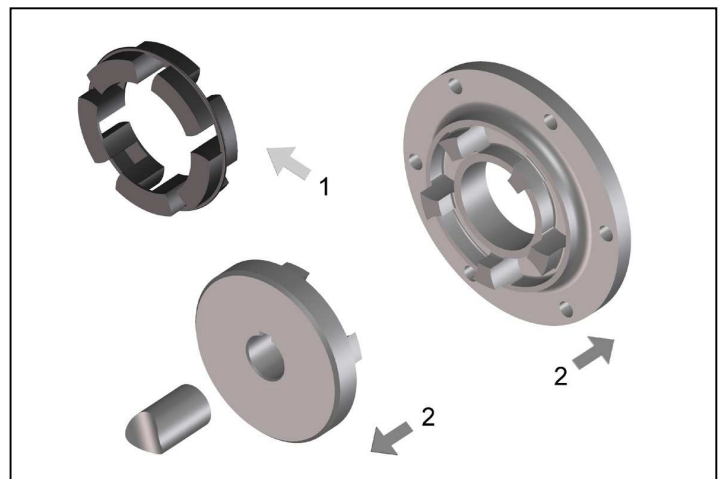

Fig. 3
- Remove the elastic intermediate ring (Figure 3, Pos. 1).
- Pull the flange hub onto the shaft end in its intended position (Figure 3, Pos.2).
- Mount the coupling flange onto the flange connection. Pay attention that the parts do not tilt during the joining onto the centring seat (Figure 3, Pos.2).